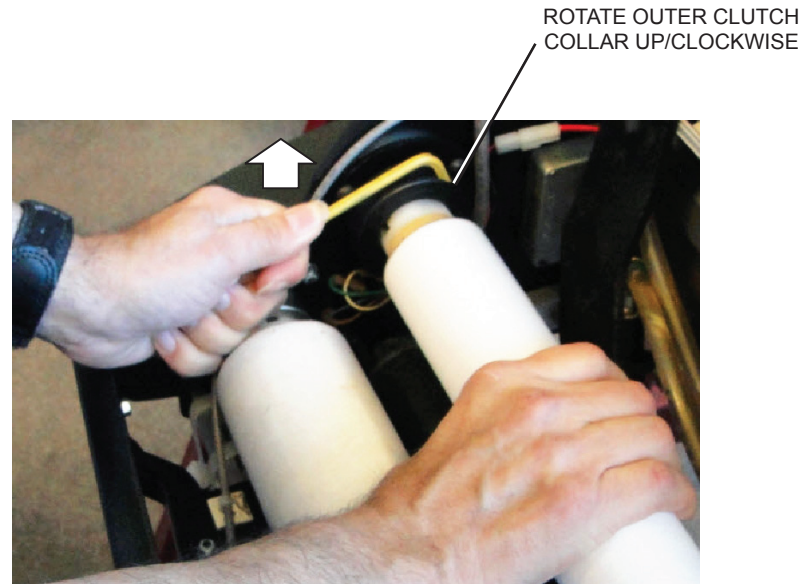

Figure 2
2. Looking at the duster clutch from the inside of the machine (Refer to Figure 2), hold the supply roll of cloth to keep the threaded inner drive post of the clutch stationary during this adjustment. Use the 3/16" Allen wrench as a lever to rotate the outer clutch collar clockwise in steps of 1/4 turn (90 degrees). Then retighten the collar bolt with the 3/16" Allen wrench to hold this setting.